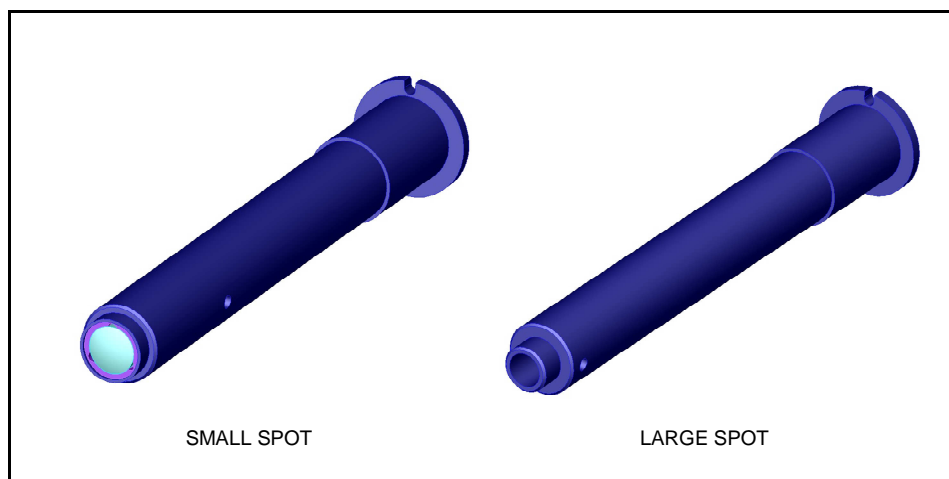

Figure 11 Fiber Optic Sleeves Showing the Standard Large Spot and Optional Small Spot
- **Optional spot size** – the fiber can view either the standard large target size or with the optional Small Spot Sleeve view or small target size. See Figure 11.